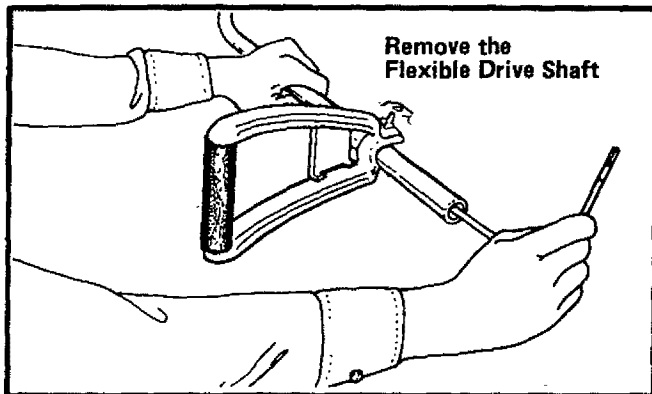

Figure 26
2. Remove the Flexible Drive Shaft as shown in Figure 26.